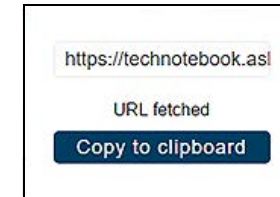

Figure 16-15
1. Select the **Menu** icon (*Figure 16-15*) from the upper toolbar.
3. Select **Copy to Clipboard** (*Figure 16-15*) from the pop-up window.